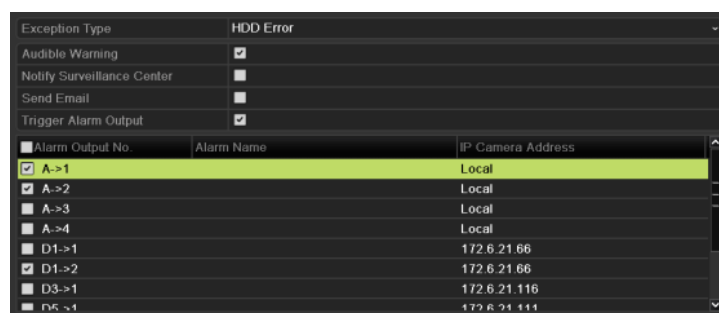

Figure 10. 25 Configure HDD Error Alarm
3. Click the checkbox(s) below to select the HDD error alarm type (s), as shown in Figure 10. 25.